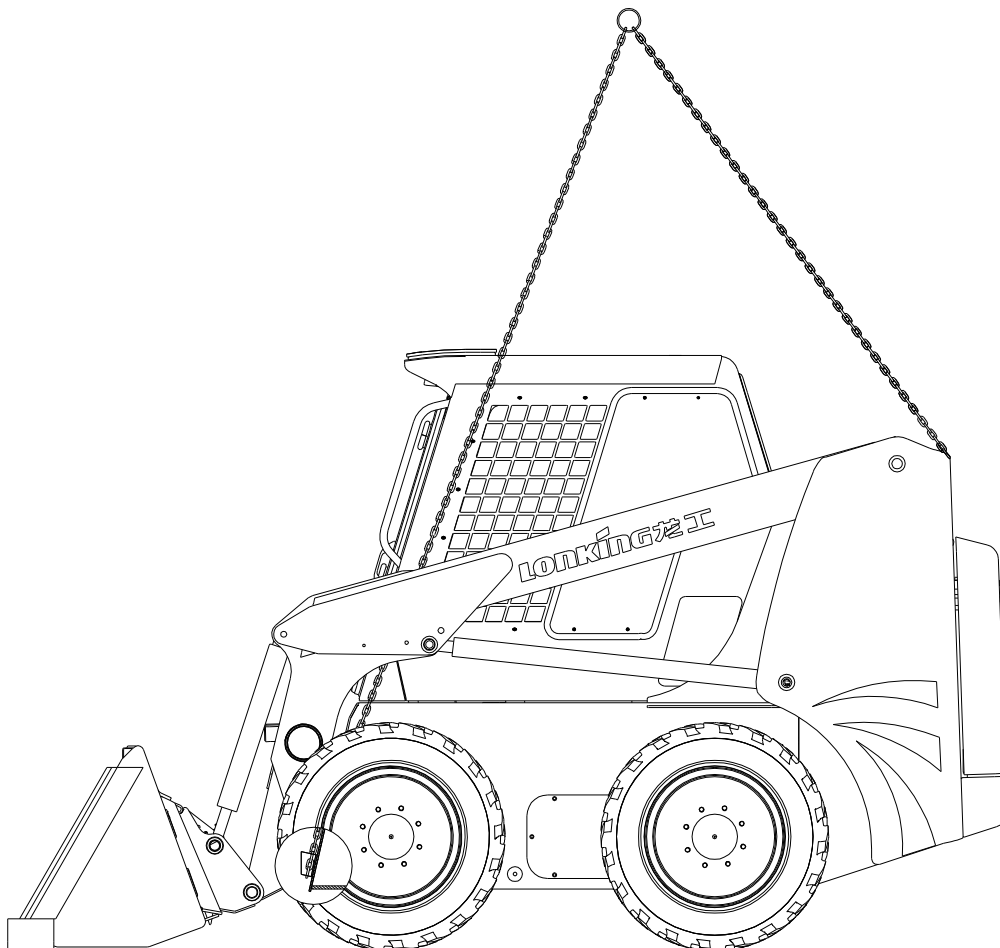

Figure 27 HOISTING SCHEMA OF THE MACHINE
5.1.1 When loader needs hoisting, the lifting hook can be used to catch the ear-plate available on the machine body. Before hoisting, adjust the length of ropes to keep the level of the machine. When hoisting, keep the lifting hook stable, better with the special tools lest steel ropes hit the machine hood and the cab. (see the figure 27)